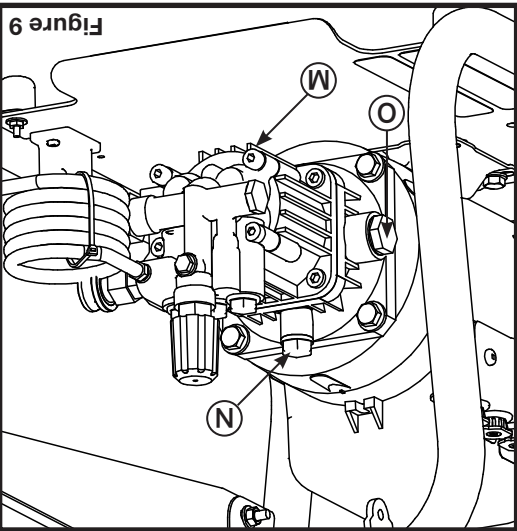

Figure 9
2. Unscrew the oil drain plug under the pump (M on figure 9).
5. Unscrew the oil filler cap (N on figure 9).
6. Fill with SAE 80W-90 oil to halfway on the sight glass (O on figure 9).